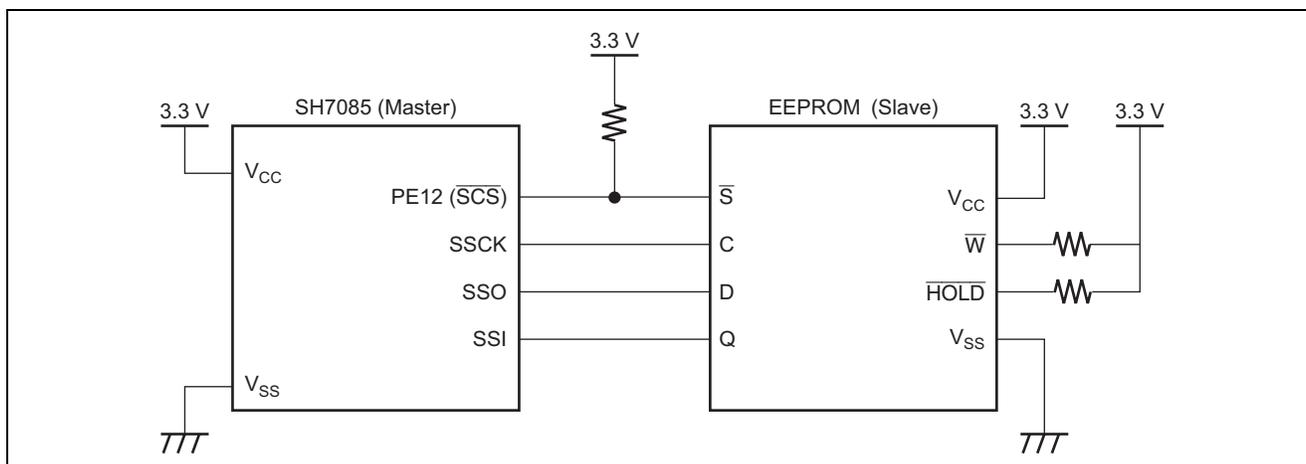

Figure 1 Example of Connection between the SH7085 and EEPROM
- (1) The SSU (Synchronous Serial Communication Unit) module of the SH7085 is used to read 10-byte data from a 4-wire serial-transmission (SPI bus) EEPROM (HN58X25128I, 128 Kbits, 16 Kwords × 8 bits).
- (2) The connection is a single-master configuration with the SH7085 used as the master device.
- (3) PE12 (general input/output port) is used as the chip select pin *.
- (4) Data is read from the EEPROM in the address range of H'0000 to H'0009.
- (5) The data transfer clock on the SPI bus is set to 2.5 MHz.
- (6) Figure 1 shows an example of connection between the SH7085 and the EEPROM. Table 1 shows the SH7085 SSU settings.
- (7) Table 2 is a list of EEPROM instruction codes used in this sample task.